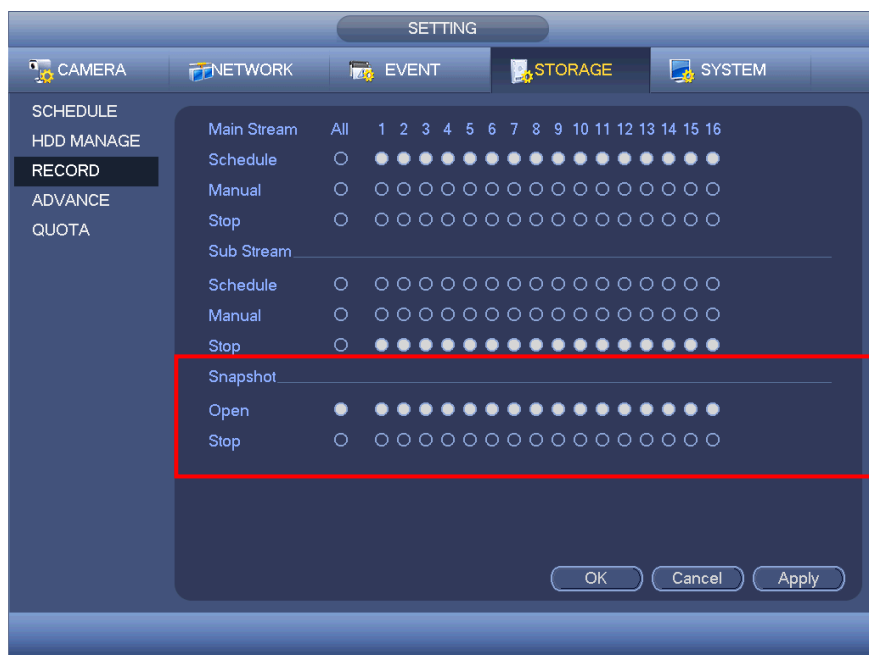

Figure 4-131
- On the preview interface, right click mouse and then select Manual->Record, or in the main menu, from Setting->Storage->Record, check the box to enable snapshot function of corresponding channels. See Figure 4-131.